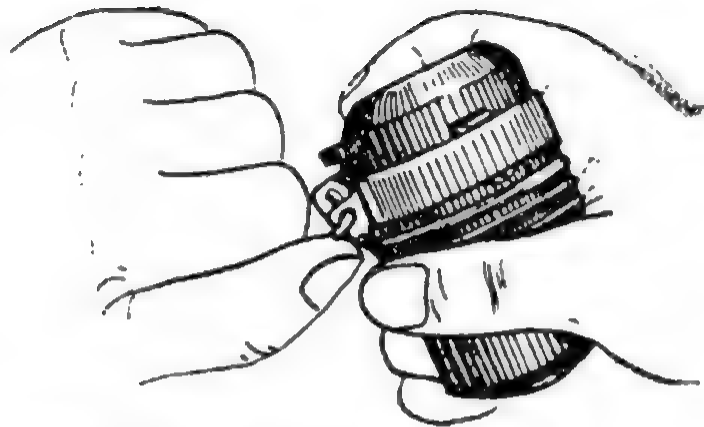

Figure 86. How to throw the grenade
#### Throwing the Grenade (Figure 86)
1. Take the grenade in your right hand (Figure 86)